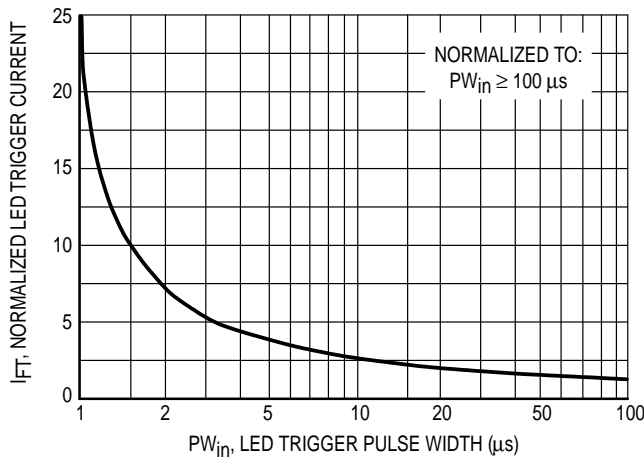

Figure 4. LED Current Required to Trigger versus LED Pulse Width
Random Phase Triac drivers are designed to be phase controllable. They may be triggered at any phase angle within the AC sine wave. Phase control may be accomplished by an AC line zero cross detector and a variable pulse delay generator which is synchronized to the zero cross detector. The same task can be accomplished by a microprocessor which is synchronized to the AC zero crossing. The phase controlled trigger current may be a very short pulse which saves energy delivered to the input LED. LED trigger pulse currents shorter than 100 μs must have an increased amplitude as shown on Figure 4. This graph shows the dependency of the trigger current IFT versus the pulse width t (PW). The reason for the IFT dependency on the pulse width can be seen on the chart delay t(d) versus the LED trigger current.